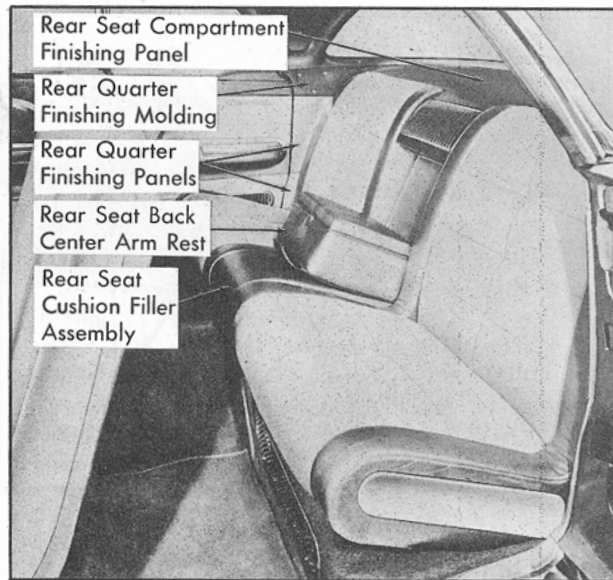

Fig. 17-44 Rear Quarter Area
1. To remove rear quarter finishing molding, Fig. 17-44, remove rear seat frame assembly; then remove finishing molding attaching screws, lift upward to disengage tabs from lower panel and remove from body.
(68) Front Seat Finishing Molding Removal and Installation